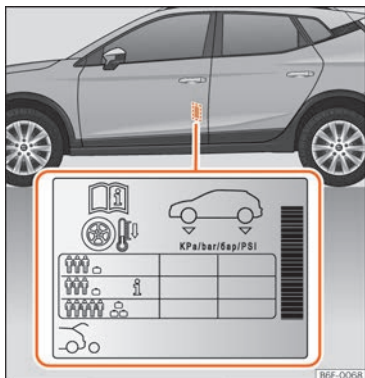

Fig. 202 Location of the tyre pressure sticker.
- Adjust tyre pressure to the load being carried by the vehicle »» Fig. 202.
The tyre inflation pressures are listed on a sticker on the rear of the front left door frame »» Fig. 202.
Depending on the vehicle, tyre pressure can be adjusted to medium load to improve driving comfort (tyre pressure **i**) »» Fig. 202). When driving with comfort tyre pressure fuel consumption may increase slightly.
The tyre pressure must be adjusted according to the load the vehicle is carrying. If the vehicle is going to carry the maximum load, the tyre pressure should be increased to the maximum value indicated on the sticker »» Fig. 202.
pressure of 4.2 bar as indicated on the tyre pressure label »» Fig. 202.
- The driver is responsible for ensuring that all of the vehicle tyres are correctly inflated to the right pressure. The recommended tyre pressure is indicated on the label »» Fig. 202.
- When the tyres are cold, tyre pressure should be that indicated on the label »» Fig. 202.